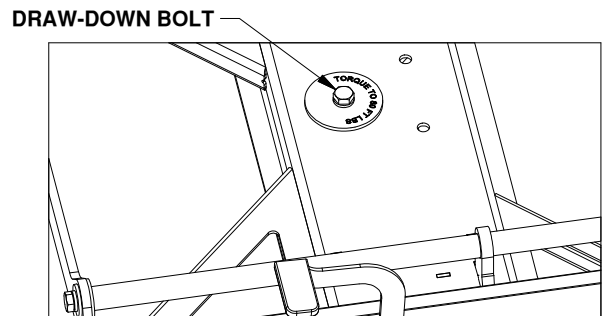

Figure B4: View looking into the top of the slider base.
6. **Secure base.** Secure the base of the slider to the truck bed by tightening the 1/2" x 3-1/2" draw-down bolt to 80 ft-lbs, see Figure B4.